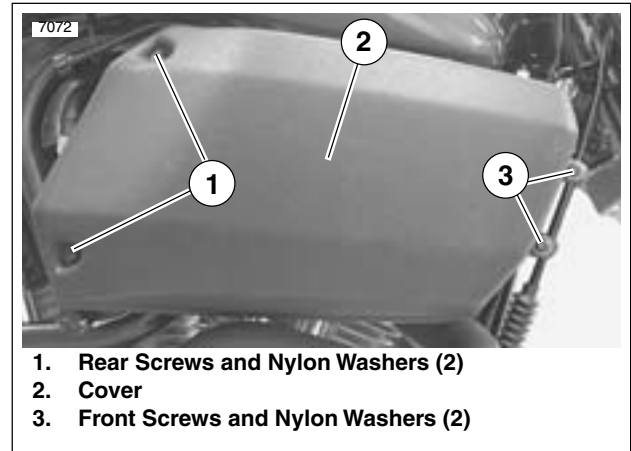
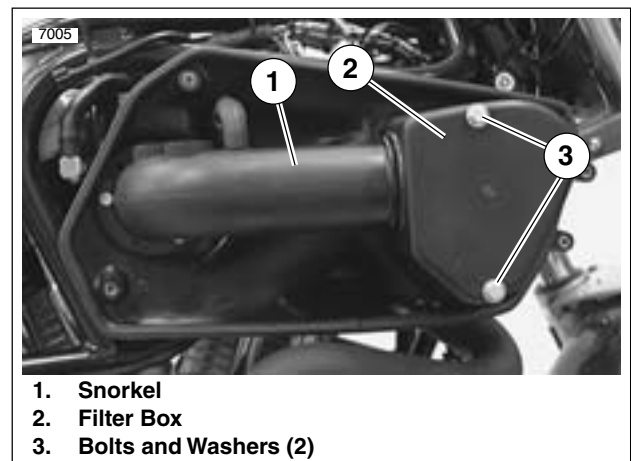

Figure 1-41. Air Cleaner Cover
Figure 1-42. Filter Box
1. See Figure 1-41. Remove both front screws and nylon washers (3).
2. Remove both rear screws and nylon washers (1). Remove cover (2).
3. See Figure 1-42. Remove bolts and washers (3) from filter box (2). Slide filter box forward, away from snorkel (1).
3. See Figure 1-42. Fasten filter box to backplate with bolts and washers (3). Tighten to 40-45 **in-lbs** (4.5-5.1 Nm).
4. See Figure 1-41. Place cover (2) over backplate assembly.
- a. Loosely install rear screws and nylon washers (1).
- b. Loosely install front screws and nylon washers (3).